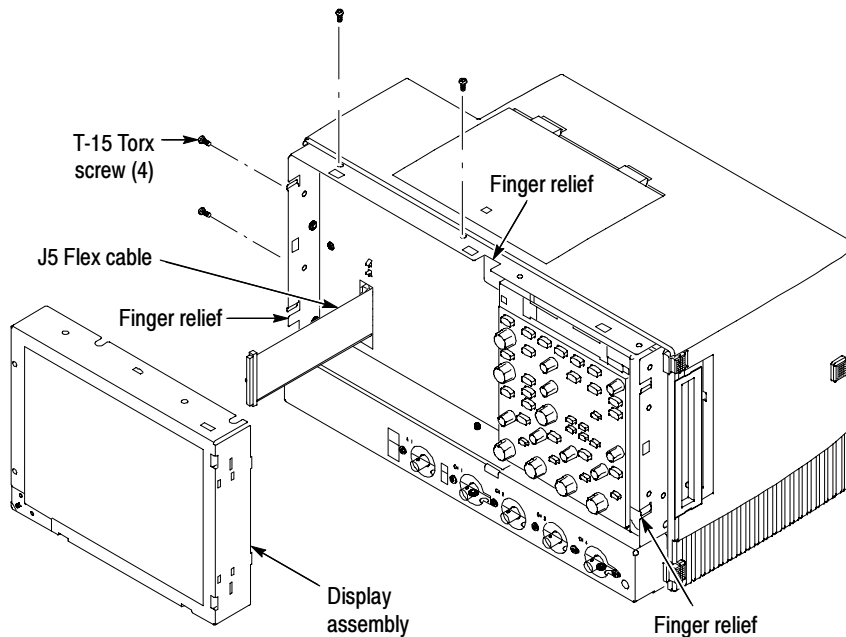

Figure 3: Display removal
3. Remove the Display assembly: See Figure 3.